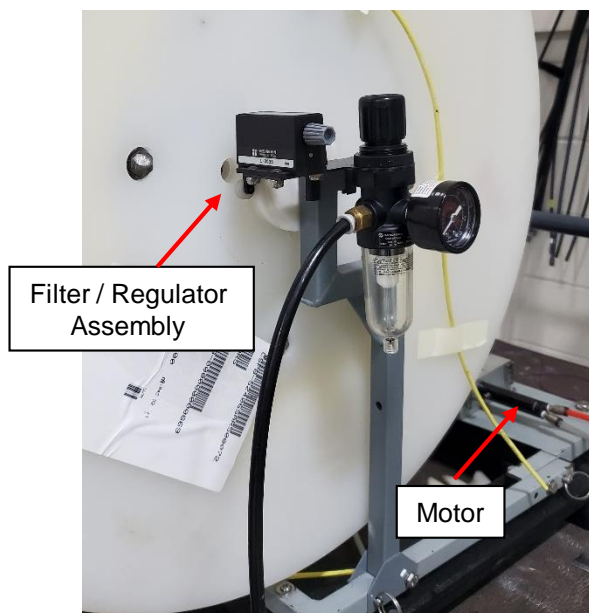

Figure 12
8.2 Mount Filter / Regulator Assembly on fiber reel support leg. Locate Assembly on same side of Payoff Stand as Blowing Head Air Motor. **See Fig. 12.**
9.3 Position fiber reel so fiber bundle pays from bottom of reel towards motor. Carefully lift reel and guide Steel Shaft ends into Payoff Stand support legs. Ensure Payoff Counter actuating arm / roller on Filter / Regulator Assembly rides on back side of Payoff Cam surface. **See Fig. 12,**